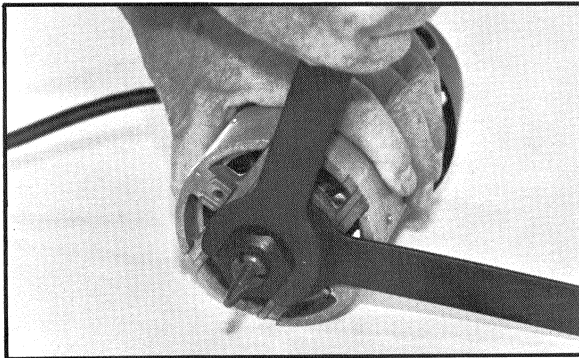

Fig. 3
5. Place one wrench on flats on Chuck with the opposite end of the wrench resting on the bench to your left, Fig. 3.
6. Place other wrench on Collet and tighten COUNTERCLOCKWISE as shown in Fig. 3. TIGHTEN FIRMLY.